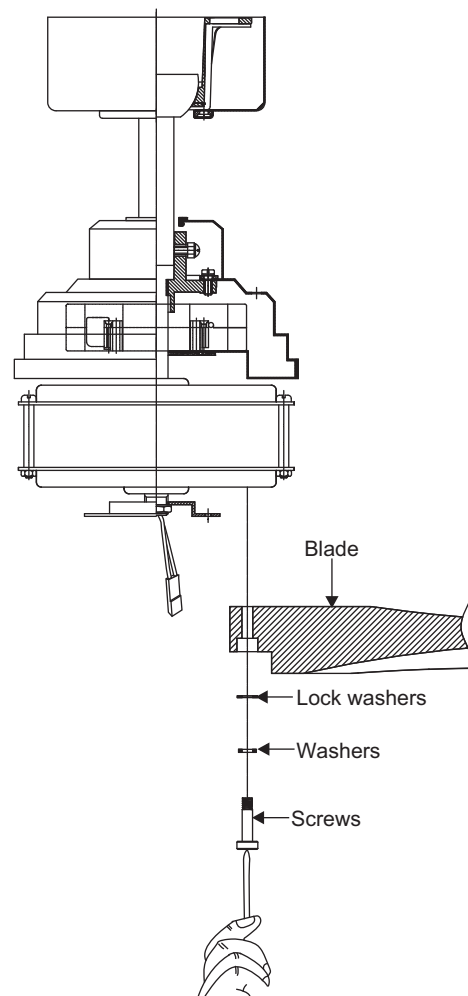

Figure 12
Step 1. Align the holes from the blade to the holes from the motor, and secure the blade in place with screws, washers and and lock washers provided. (Fig. 12)